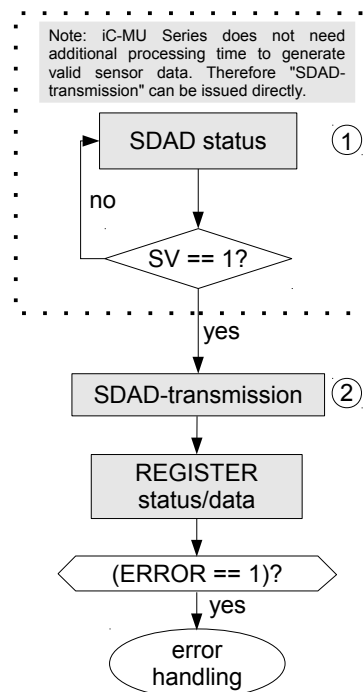

Figure 28: Example sequence of the commands SDAD Status/SDAD-transmission
Figure 28 shows the interaction of the two commands **SDAD Status** and **SDAD transmission**. It is not necessary to start each sensor data communication with the command **SDAD Status** (1). iC-MU Series has no processing time and can therefore directly output valid sensor data. Because of that the command sequence can start with **SDAD-transmission** (2). Following this, the command **REGISTER status/data** should be executed to detect an unsuccessful SPI communication.